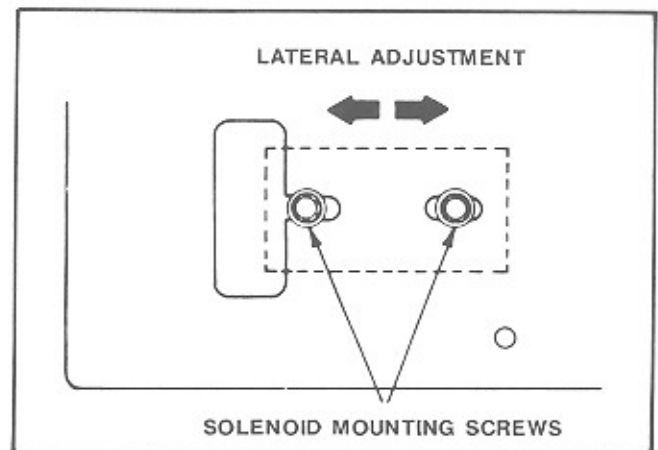

Figure 3-10. Lateral Adjustment
2. Loosen the solenoid mounting screws and with the roll pin against the plunger, position the solenoid so that there is a $1/64$ to $1/32$ inch gap between the sprag lever and the highest point on the sprag wheel (see figure 3-10).